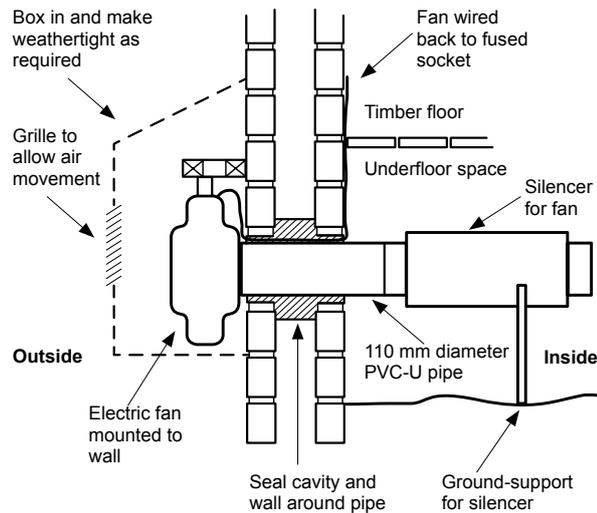

Figure 11: System fitted with silencer
- Where a fan is to blow air beneath a floor, consider fitting a silencer to the system. This is particularly appropriate for manifolded systems (Figure 11). Fan manufacturers can advise on appropriate silencers.